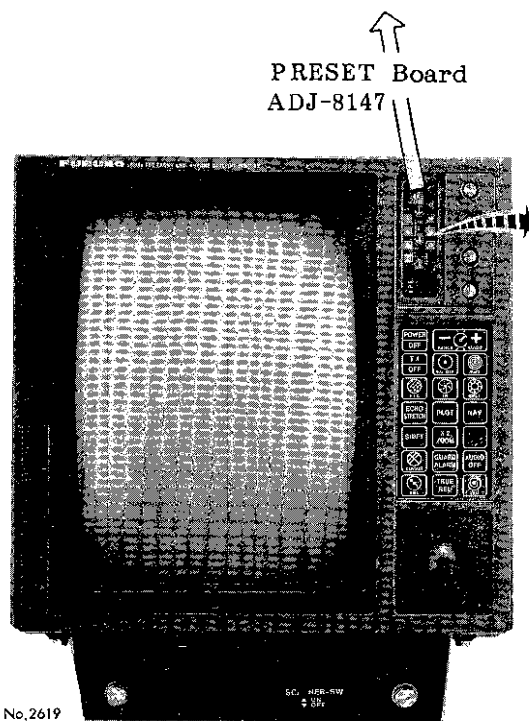

Fig.19 Display Unit with VR Panel Removed
1. Press the  touchpad on the display unit, and the control panel will light up. In approximately 2 minutes and 30 seconds, the message "ST-BY" will appear at center of the screen. While this warmup is in process, pry off the VR panel on the front panel of the display unit. See Fig.19. This will expose the potentiometers for post installation adjustments. Push in the front panel TUNE control and release it to bring it out. Set the control to 12 o'clock, the GAIN control at 2 o'clock, and the A/C RAIN and A/C SEA controls at fully counterclockwise.
3. Press the  touchpad three times so that the radar is on the 24-mile range. Bring up the GAIN control until a small amount of noise appears on the screen. At this point, unless the tuning just happens to be at the optimum point, slowly adjust the coarse "TUNE" control accessible through the VR panel, watching the screen for radar targets. (See Fig.19.) You must patiently adjust this coarse-tuning control in very small increments, allowing the sweep to go around completely in order to observe the effect of a single small change in its setting. When you are finished optimizing the coarse tuning control behind the VR panel, verify that the fine TUNE control on the front panel peaks up for maximum radar echoes at 12 o'clock, or at least close to that point.
5. Compare the bearing measured in step 3 and 4 above, and calculate the direction and magnitude of the bearing error. If the error is within  $\pm 5^\circ$ , adjust rotary code switch S1 ("HEAD", clockwise rotation shifts the picture CW, Fig.19.)
3. Adjust the "TIMING" potentiometer (VR6, Fig.19) so that a straight object will appear straight with no "pushing" or "pulling" near the picture center.
2. Set VR4 at the position where a little background noise appears on the screen. See Fig.19 for the location of VR4.
2. Adjust potentiometer VR1 ("TUNE", Fig.19), located behind the VR panel of the display unit, so that a comparatively weak long range echo is discerned with maximum definition.
3. Adjust potentiometer VR8 ("PEAK", Fig.19) for the maximum number of tuning bars.
The illumination of the touchpad panel can be adjusted to suit your needs, by adjusting the "DIM" potentiometer (VR5) located behind the VR panel of the display unit. See Fig.19 for the location of VR5.
A/C SEA is preadjusted at the factory. However if the following conditions are not satisfied with the A/C SEA control, adjust potentiometer VR3 ("A/C SEA"), located behind the VR panel of the display unit (Fig.19.)
A/C RAIN is preadjusted at the factory. However if the following conditions are not satisfied with the A/C RAIN control, adjust potentiometer VR2 ("RAIN"), located behind the VR panel of the display unit (Fig.19.)